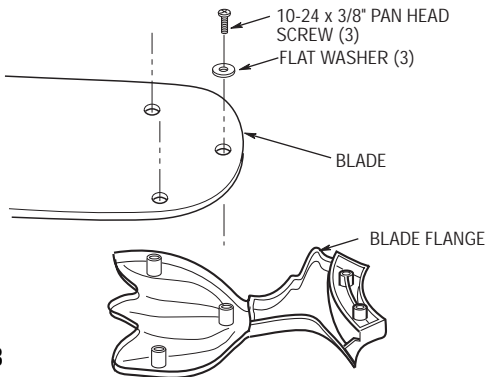

Figure 8
- 12. Use three 10-24 x 3/8" pan head screws and flat washers (supplied) to secure flange to blade (blades ordered separately) (Figure 8). Repeat for the remaining four blades.